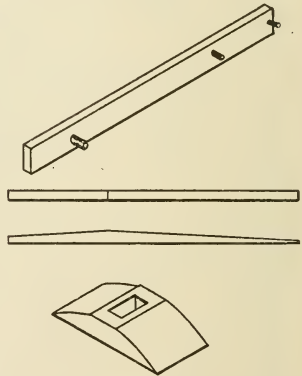

FIG. 100. — CATCH, SPRING, AND SLOT OF GATE.
4. Making catch, spring, and slot. — The catch should be made of some hard wood $1'' \times 3'' \times 4' 6''$. $1''$ from one end a $\frac{1}{2}''$ hole is bored, $12''$ from the same end another $\frac{1}{2}''$ hole is bored, $9''$ from the other end another hole of the same size is bored. Hard wood pegs should be fitted in these holes. The one for the first hole needs to be about $3''$ long, while the other should be about $5''$ long so that it can be handled easily in pulling back the catch to open the gate (Fig. 100). The spring should be made of hickory $3' 3''$ long and about $1''$ square.
post is large; otherwise one can be made from a block of hard wood, as shown in Fig. 100, and nailed to the post. Lay the catch where it belongs on the gate and nail over it two strips in line with the two uprights.